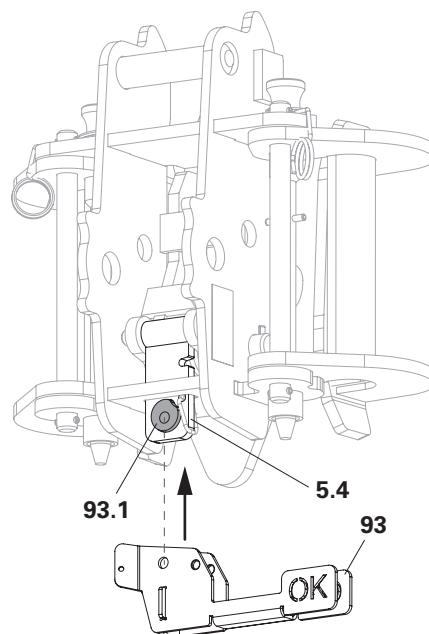

Fig. C5.11
- The hole in the Visual Aid Climbing Shoe RCS (**93**) and the adaptor (**93.1**) must be flush. (Fig. C5.11)